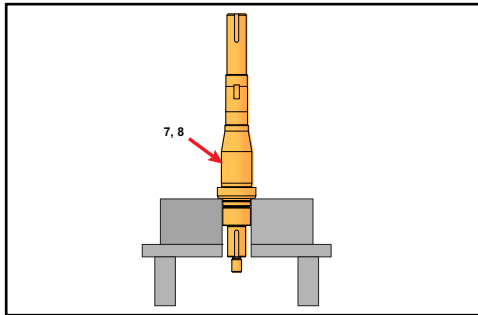

Figure 46 - Grease Shaft
1. Lubricate the front bearing area of the shaft (Figure 46, item 7, 8) with oil or grease. Place it upright in a hydraulic press with the liquid end down.